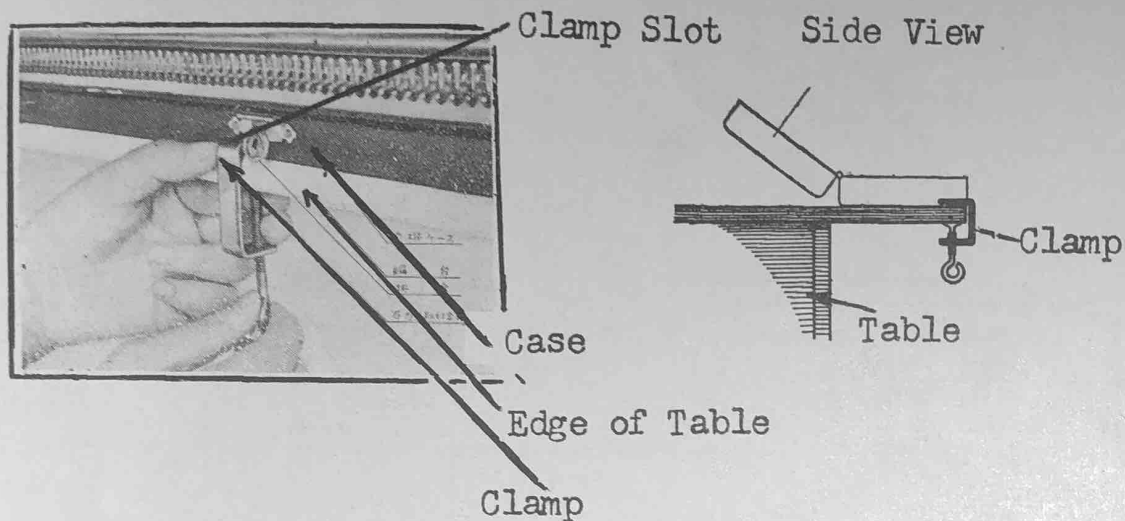

Fig. 1
All knitting is based on a gauge of how many stitches and how many rows make an inch. The tension on the yarn determines the size stitch by how far the cams will draw the loop of yarn in the hook. Adjustment of the stitch gauge is done by revolving the large circular Fig. 1. This dial is divided into nine main divisions and each division again divided into five sections making a total of 45 stitch adjustments possible. For practical purposes one need only consider the use of the nine major numbers. The larger the number the looser will be the stitch. For the adjustment for yarn refer to the following table:
1. Remove the knitter from its case and wipe off the rust preventing oil. Place the knitter back into the case and set the case on a suitable stand or table. Fix the case firmly with the two clamps through the slots in the base of the case. The case should be firm, but never tighten the clamps so tight that they will raise the rear of the case. See Fig. 1.